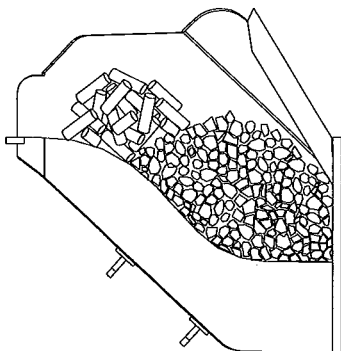

Fig.17
3. **Add desired starting material** (crushed charcoal, wood pellets, or manufactured coal starting block) over the remaining holes. See Figure 17. Wood pellets are shown in Figure 17.